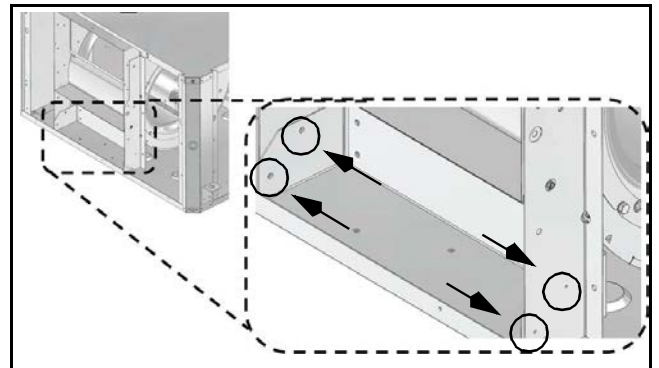

Fig. 23
14. Connect the vertical and horizontal brackets using four screws. (See Fig. 23.)